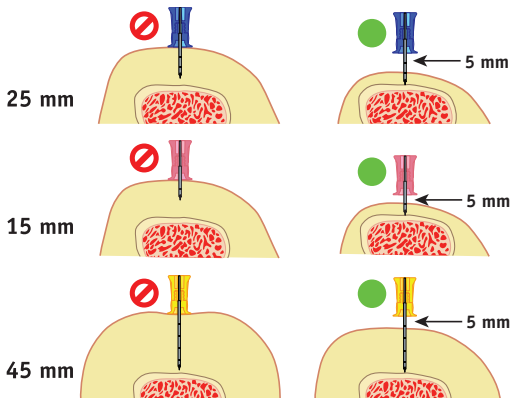

FIGURE 7
- b. Ensure at least 5 mm of the catheter is visible. (Figure 7)